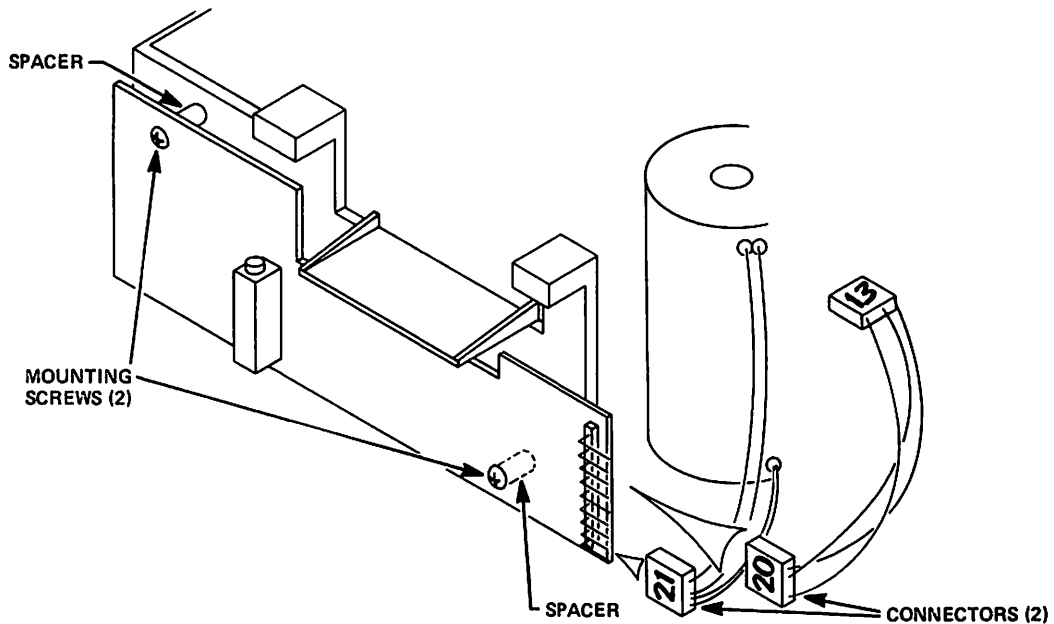

Figure 5-3
5.3.1 Detach connectors P20 and P21 from the Servo PCBA (see Figure 5-3), located at the back of the disk drive.
- 5.3.8 Plug Connectors P20 and P21 into their proper slots on the Servo PCBA — P20 on the top and P21 on the bottom — see Figure 5-3.